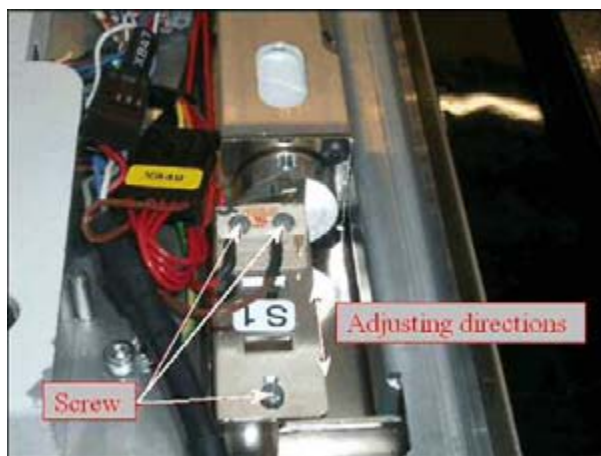

Fig. 29: Adjusting grid switch S1
Switch S1 (Fig. 29 / p. 53) on the detector table disables the high voltage when the grid is in the turning point. If the switch is not adjusted correctly, the high voltage is active when the grid is standing still.
2. Loosen the three screws. It is now possible to adjust grid switch (S1) alongside the grid (Fig. 29 / p. 53).